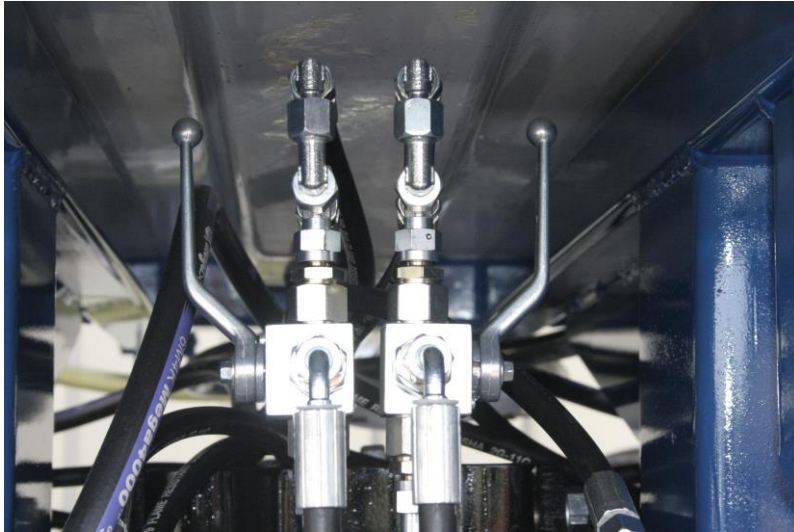

Fig. 3. Control Valve Levers in the Machine Unfolding and Folding Position
1. Set the three-way valve control levers to the vertical position /Fig. 3/.
The machine may only stand on the rear wheels and front supporting legs when in storage. The fertilizer tank must be empty. When the machine is stored away, the valves must be switched to the vertical position for machine folding and unfolding, see Fig. 3.